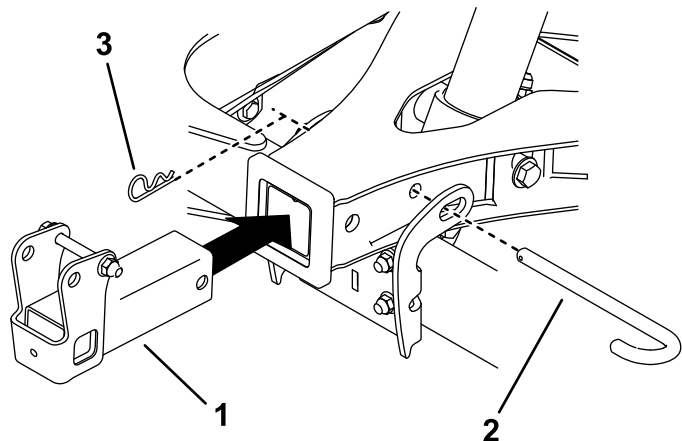

Figure 11
- Remove the hitch pin and cotter pin from the A-frame and use it to install the hitch receiver (Figure 11). Ensure that the pin locks the A-frame to the cross tube.